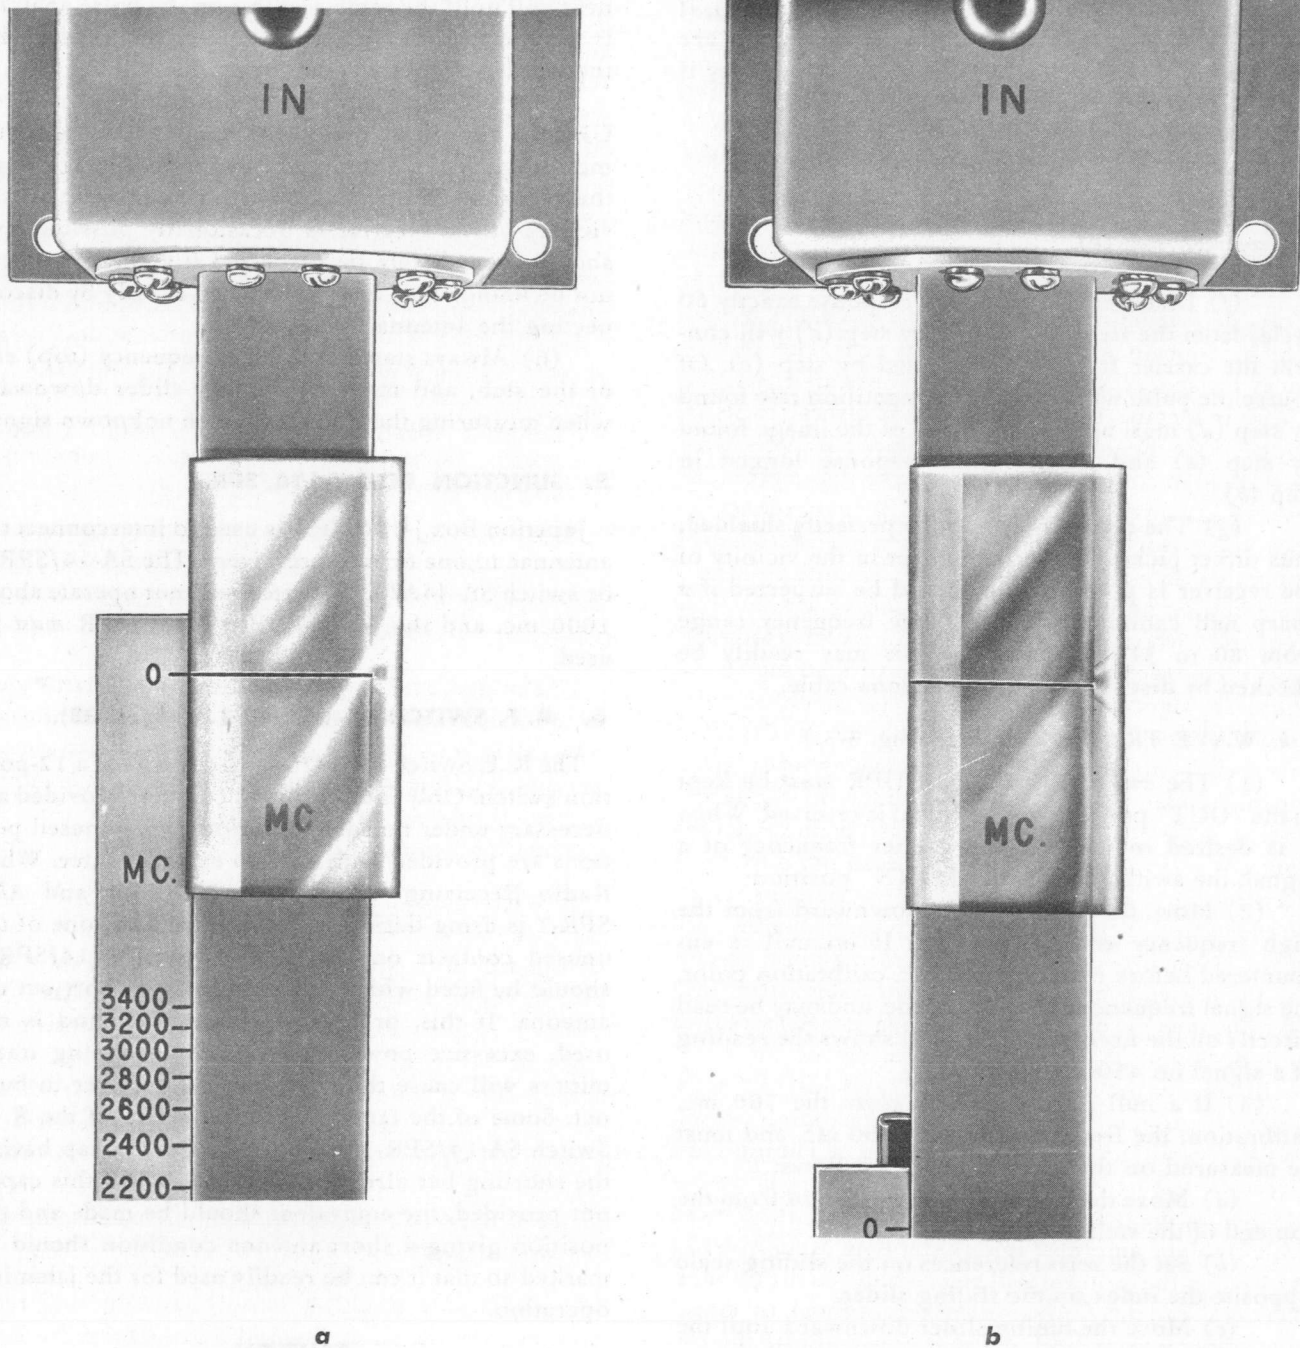

Figure 3-3. Wave Trap F-20/UPR, Operation.
**b. WAVE TRAP F-20/UPR. (Fig. 3-3.)**
(1) The switch on the F-20/UPR *must* be kept in the "OUT" position until a signal is received. When it is desired to measure the carrier frequency of a signal, the switch *must* be in the "IN" position.
(d) Read the frequency on the sliding scale directly opposite the tuning slider index. Fig. 3-3 shows the reading of a signal of 1,300 mc.